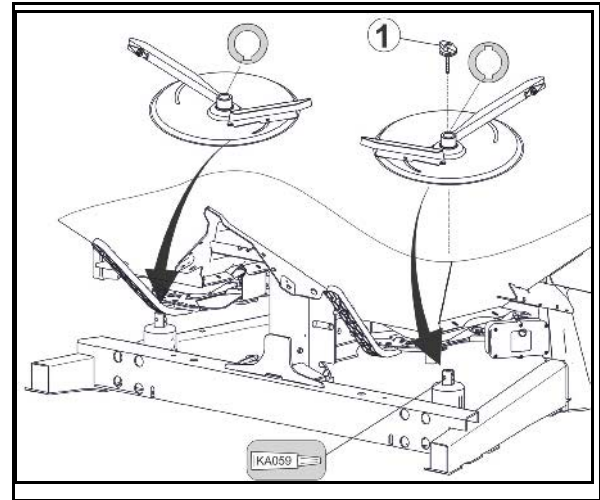

Fig. 68
1. Boundary spreading in accordance with fertiliser ordinance (Fig. 68):